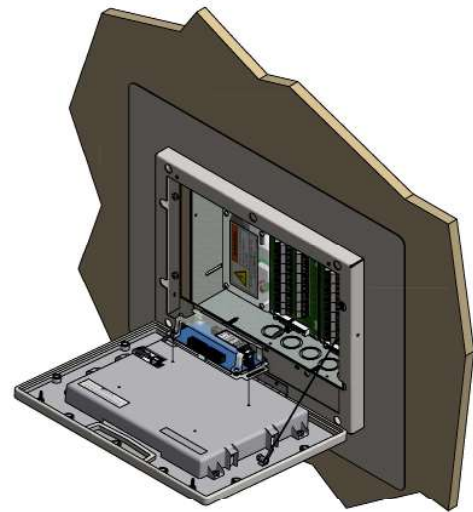

Figure 229: Front Panel Installation
2. Connect the lanyard to the threaded extension on the right side of the trim ring (Figure 229).